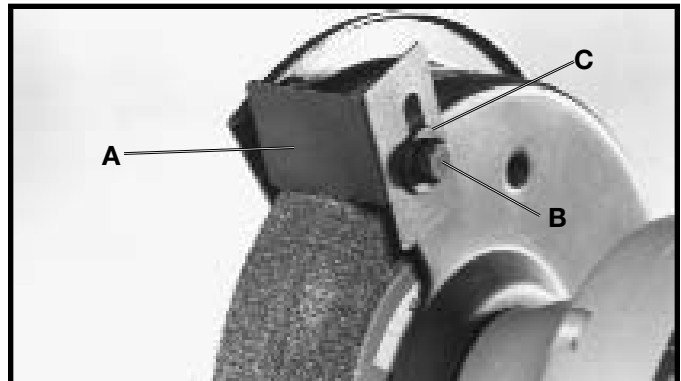

Fig. 4
The spark guard (A) Fig. 4, is to be mounted to the side of each wheel guard, using the 1/4-20x1/4" screw (B) and 11/16" washer (C) as shown. The spark guard (A) should be adjusted as close as possible to the grinding wheel so that sparks never strike the operators hand. As the wheels wear down the spark guard (A) should be adjusted accordingly.